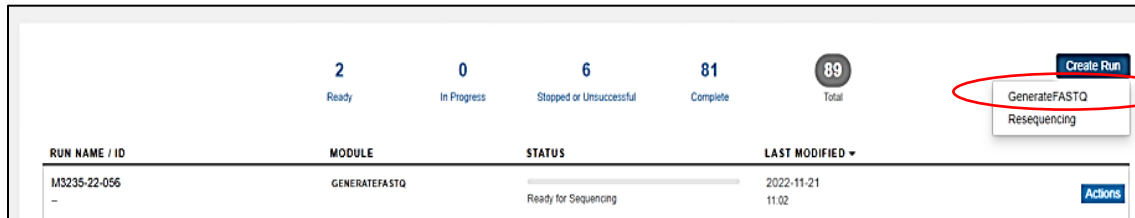

Figure 7. GenerateFASTQ module option in Local Run Manager.
- 1.4.3. Select the "GenerateFASTQ" analysis module (Fig. 7).